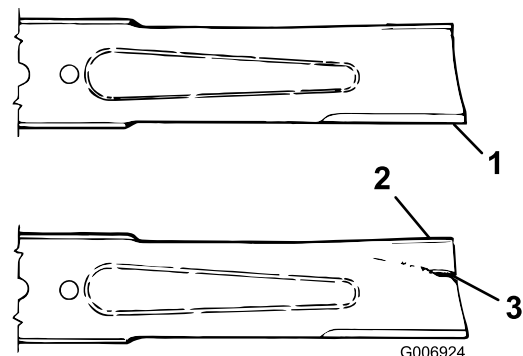

Figure 72
2. Examine the cutting ends of the blade carefully, especially where the flat and curved parts of the blade meet (Figure 72). Since sand and abrasive material can wear away the metal that connects the flat and curved parts of the blade, check the blade before using the machine. If wear is noticed (Figure 72), replace the blade; refer to Removing the Cutter Blade.
If the blade is allowed to wear, a slot will form between the sail and flat part of the blade (Figure 72). Eventually a piece of the blade may break off and be thrown from under the housing, possibly resulting in serious injury to yourself or bystanders.